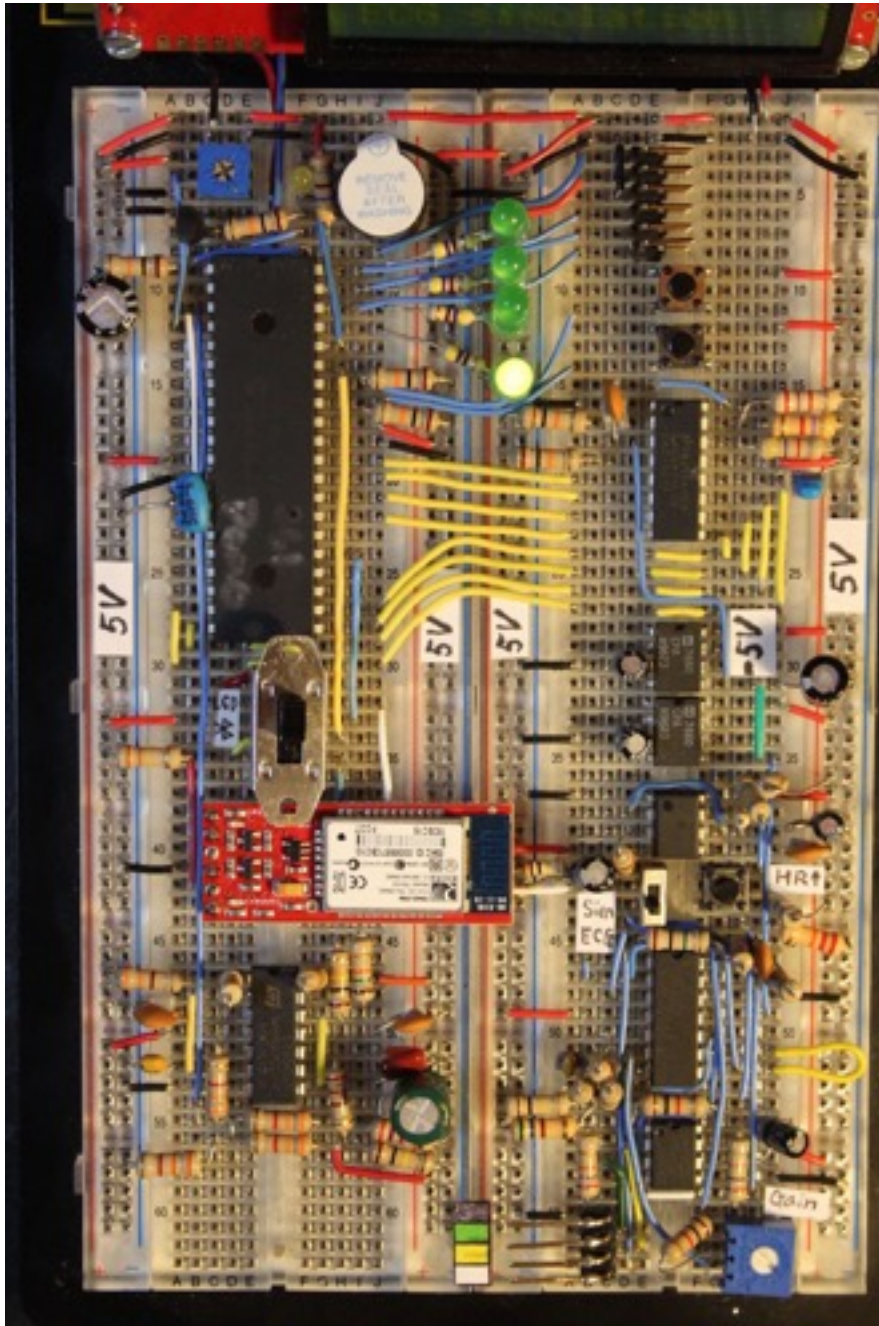

Figure 1.2. Demonstration Breadboard
3. Make sure everything is neat and COMPACT. You will need to have room on your breadboard for the following labs. See the layout of the demonstration in Figure 1.2.